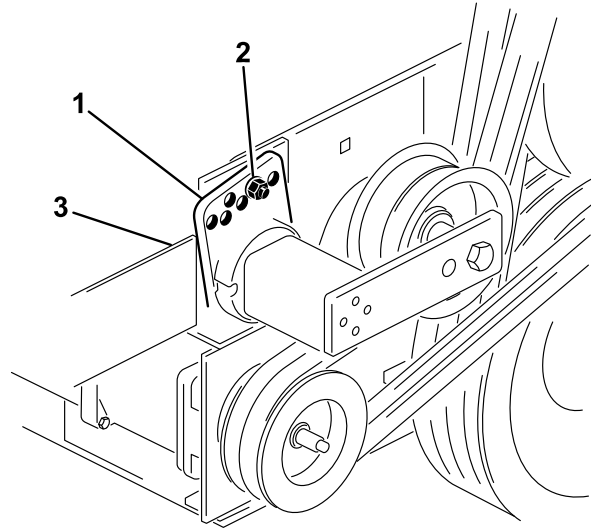

Figure 18
3. Remove the bolt and nut securing the tensioner guide to the drive mount to release the belt tension (Figure 18).